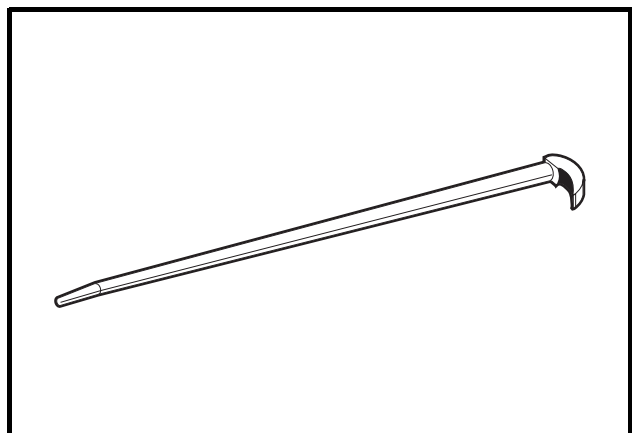
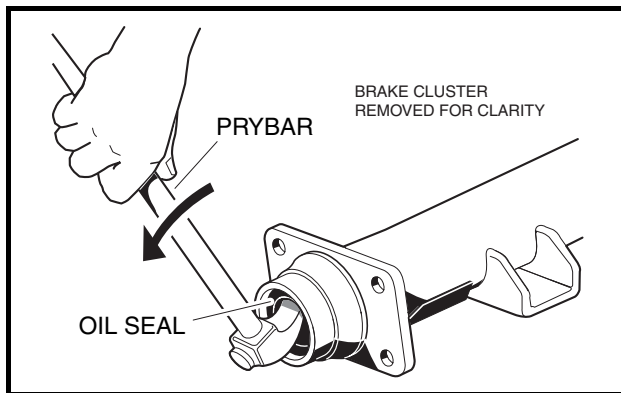

Figure 16-4 Rolling Head Prybar
Figure 16-5 Seal Lip
8. Position a 16-inch (40 cm) rolling head prybar (**Figure 16-4, Page 16-3**) under the inside lip of the seal and pull the oil seal out (**Figure 16-5, Page 16-4**). See following **CAUTION**.